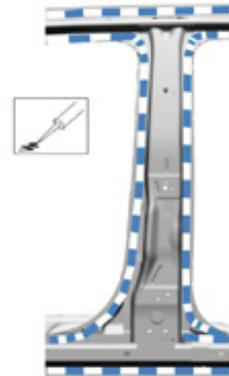

Figure 1
4. Apply adhesive to the body side, using the metal-bonding adhesives TA-1, 3M™ 08115, Fusor® 108B. **(Figure 1)**